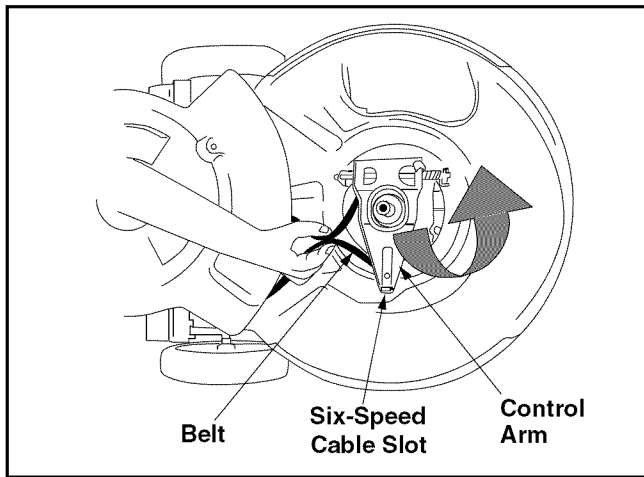

Figure 18
- Squeeze the belt together and push it forward, while pressing the control arm inward towards the deck and remove the six speed cable from the slot. See Figure 18.